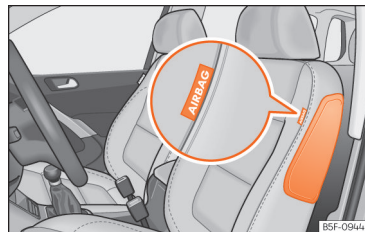
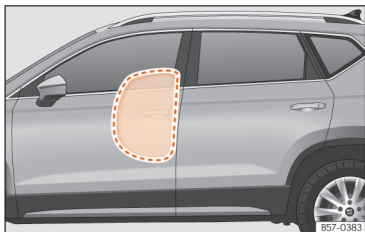

Fig. 28 Side airbag in driver's seat.
Fig. 29 Illustration of completely inflated side airbag on left side of vehicle.
The side airbags are located in the front seat backrests >>> **Fig. 28** , >>> **Fig. 29**.
- Ensure that children are correctly seated in their seats and that their heads are not in the deployment zone of the side airbags >>> **Fig. 29**, as deploying airbags could hit them and cause serious injury.